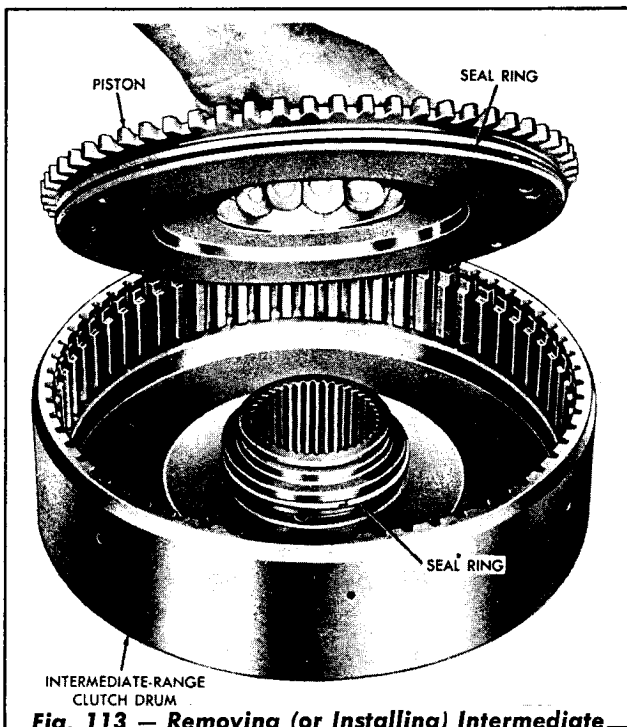

Fig. 113 — Removing (or Installing) Intermediate Range Piston Assembly
- e. Remove the intermediate range piston assembly and remove the seal ring from the piston. Remove the hook type seal ring from the drum (Fig. 113).
- a. Install the seal ring onto the intermediate range piston (Fig. 113). Install the hook type seal ring onto the intermediate range clutch drum.
- b. Install the piston into the clutch drum (Fig. 113). Install the piston return spring (10), convex side up.